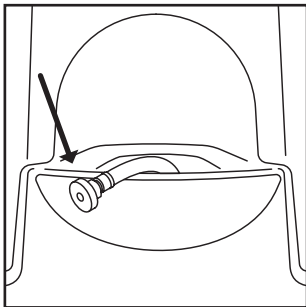

Fig. 2
1. If you are not pre-spraying the chemical on the carpet, fill up the fresh water solution tank with tap water that is 120°-135° F (49°-57° C) and approved carpet cleaning chemical, following the mixing instructions for the chemical being used, into the solution tank. If using the EZ Fill hose option, remove the hose from the solution tank, (Fig. 2), and connect the hose to a water faucet.